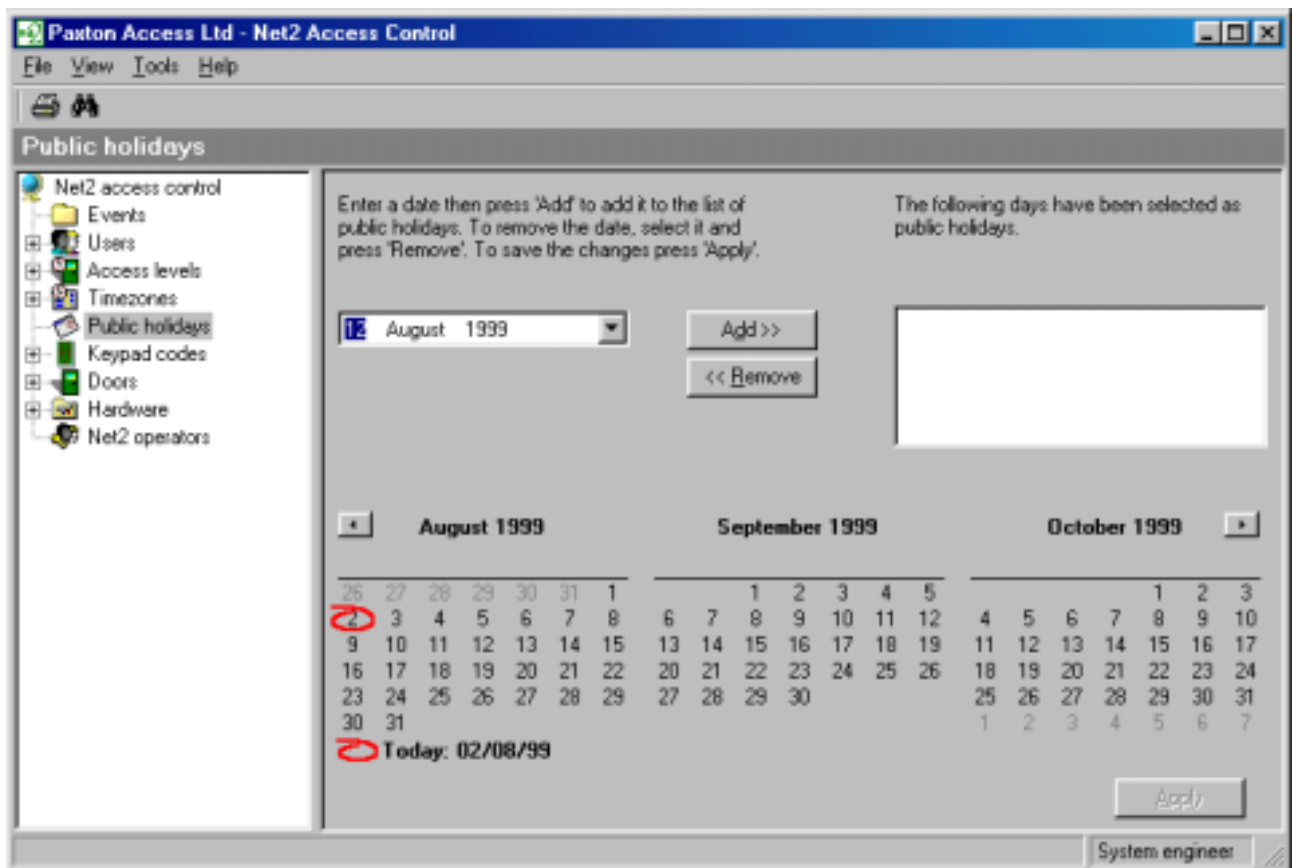

Figure 4.20
1. Select Public holidays from the treeview window, see figure 4.20.